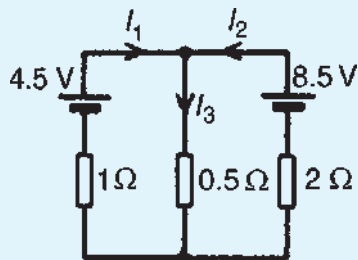

Figure 13.25
1. Use the superposition theorem to find currents I_1 , I_2 and I_3 of Fig. 13.25.